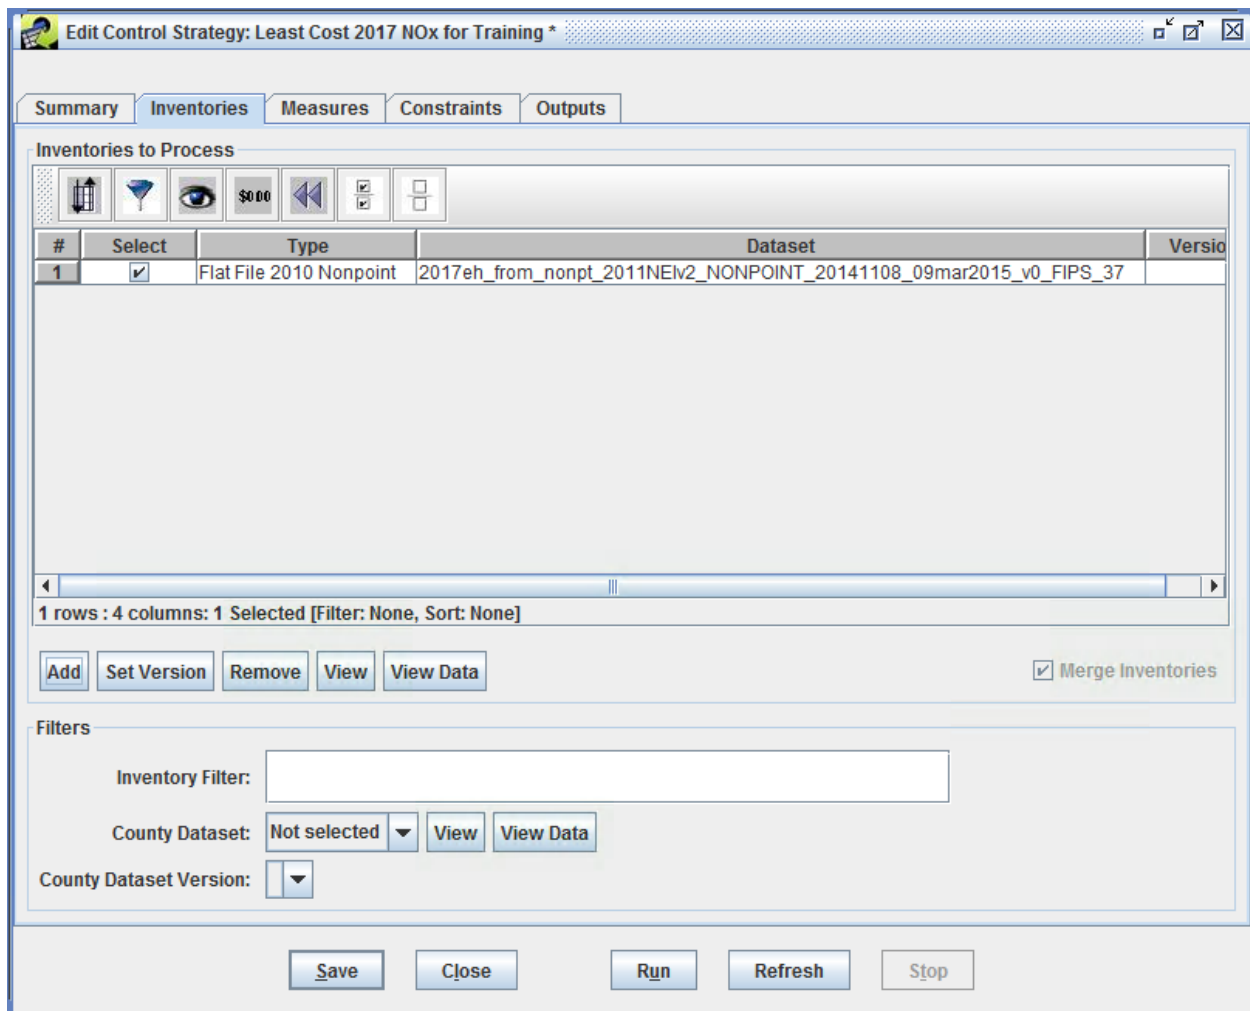

Figure 4.7: Inventories Tab of Edit Control Strategy Window
This section describes how to set the inventory inputs for a Control Strategy on the Edit Control Strategy window **Inventories** tab (Figure 4.7). Click on the **Inventories** tab. The **Inventories to Process** table near the top of the tab lists the emissions inventories for which the control strategy will be run. A control strategy can have one or more emissions inventories as input. Before inventories can be selected for use in the strategy, they must already have been imported into the EMF using either the **Import** item on the **File** menu of the EMF Main Window or through the Dataset Manager. The CoST application comes preloaded with several example inventories for training purposes.
Step 4-13: Remove an Inventory from a Control Strategy. To remove inventories from a control strategy, click the **Select** checkbox next to the inventory to remove and click the **Remove** button below the **Inventories to Process** table (Figure 4.7). Click **Yes** to confirm deletion of the selected inventories. There is no need to remove either of the inventories for this example strategy.